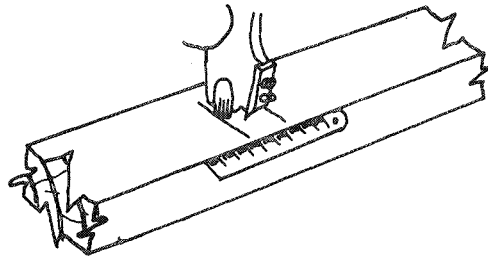

Fig. 1.48 Checking width of cut.
10. Slide the second half of the trenching head into position and check for accuracy of width. This is done by turning the unit by hand to allow both scribing cutters to scratch the surface of a scrap piece of timber and then measuring the distance between them (**Fig. 1.48**). When the width of cut is correct secure into place with the bolt.